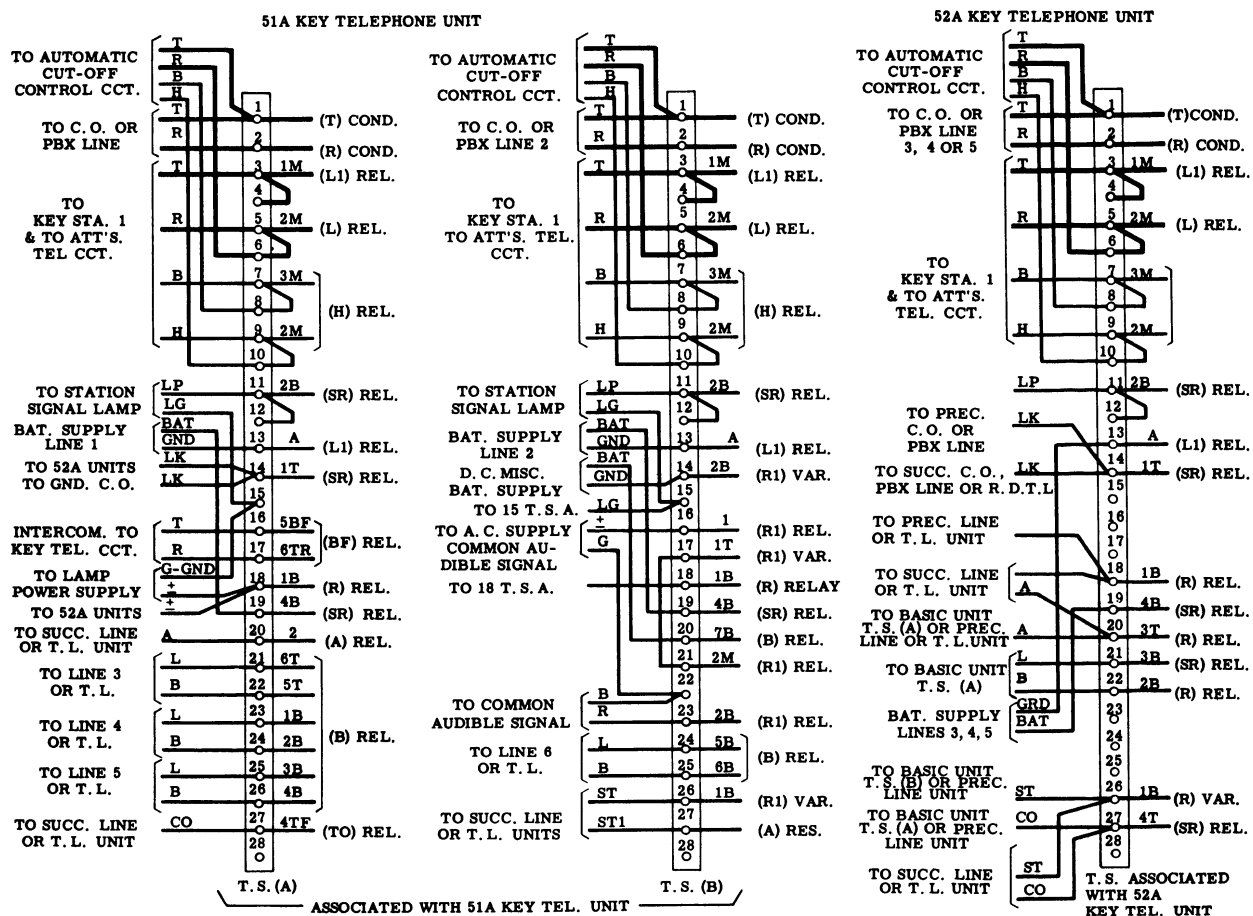

Fig. 9 Terminal Strips - 51A and 52AKTUS
- (i) Fig. 9 Terminal Strips for 51A and 52A KTU's.